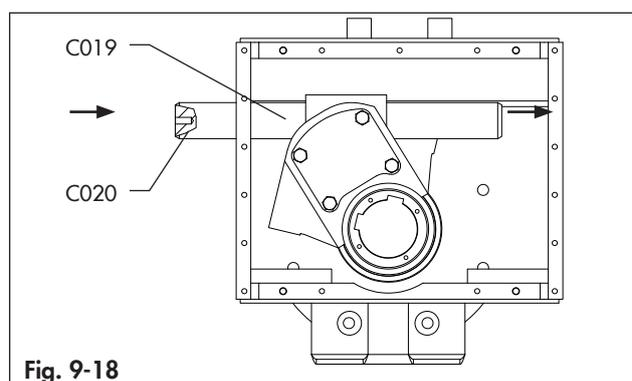

Fig. 9-18
- Insert the guide bar (C020) into the central module housing (C015) engaging the sliding block (C019) and reaching the opposite side of the housing (C015). A threaded hole is available into the front side of the guide bar for lifting by means of proper equipment. (Fig. 9-18)